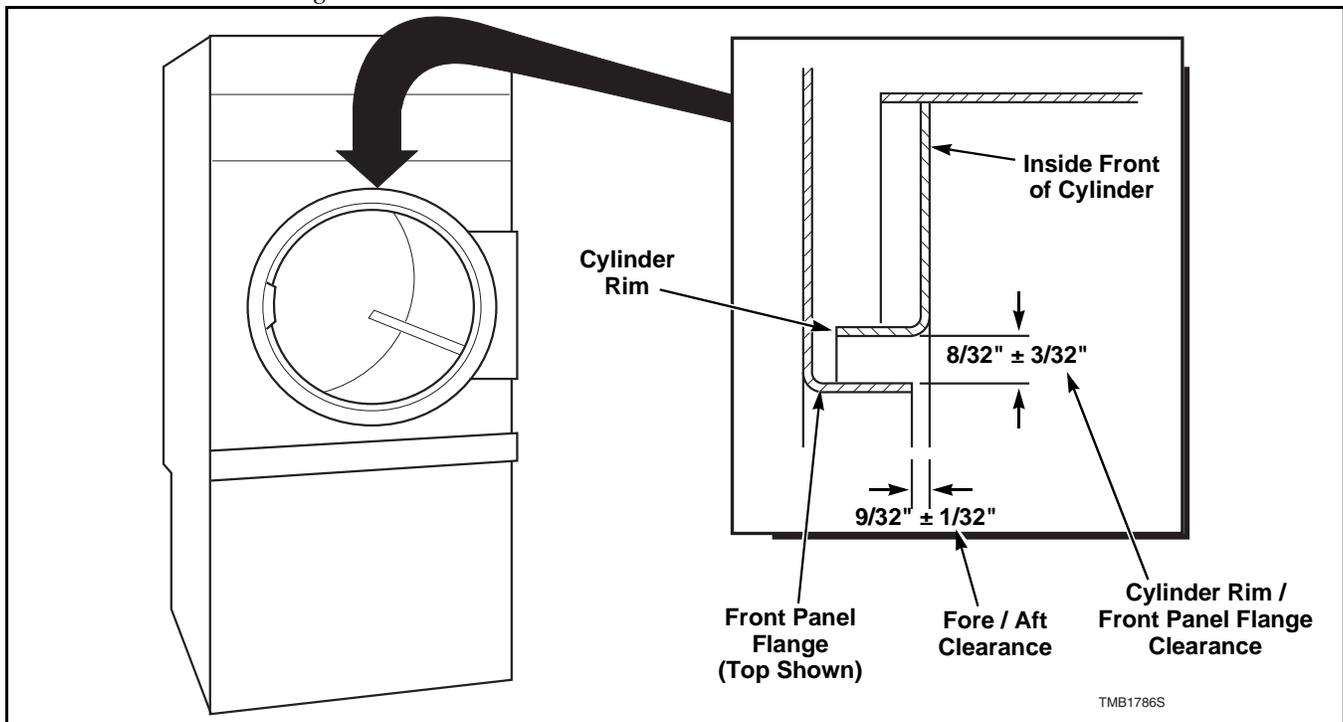

Figure 5
- b. Check the gap between the center of the front panel top flange and the cylinder rim. Proper adjustment is when the gap is  $8/32$  inch  $\pm$   $3/32$  inch. Refer to *Figure 5*. Perform steps d through i to adjust the cylinder rim/front panel flange clearance.
- c. Check the cylinder fore/aft clearance between the inside front of the cylinder and the edge of the front panel flange. Proper adjustment is when the gap is  $9/32$  inch  $\pm$   $1/32$  inch. Refer to *Figure 5*. Perform steps j through n to adjust the cylinder fore/aft clearance.